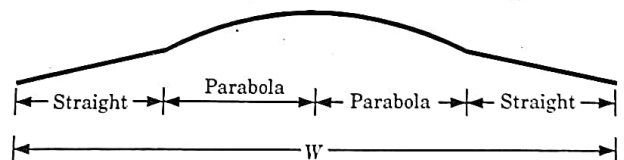

Fig. 2.5.3. Combination of straight and parabolic camber.
- i. In this case, straight lines are provided near the pavement edges but at the crown, parabolic shape is provided as shown in Fig. 2.5.3.